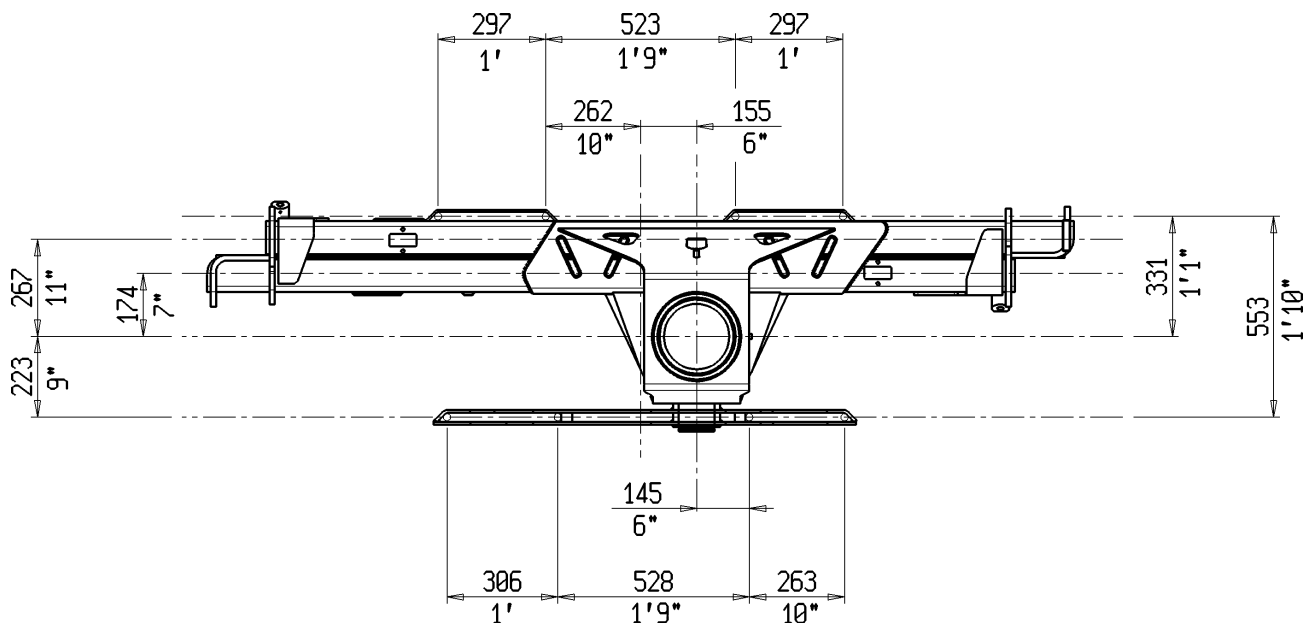

Fig.1-10
1.7.2 DIMENSIONI DI ANCORAGGIO (fig.1-10)
1.7.2 MOUNTING DIMENSIONS (fig. 1-10)